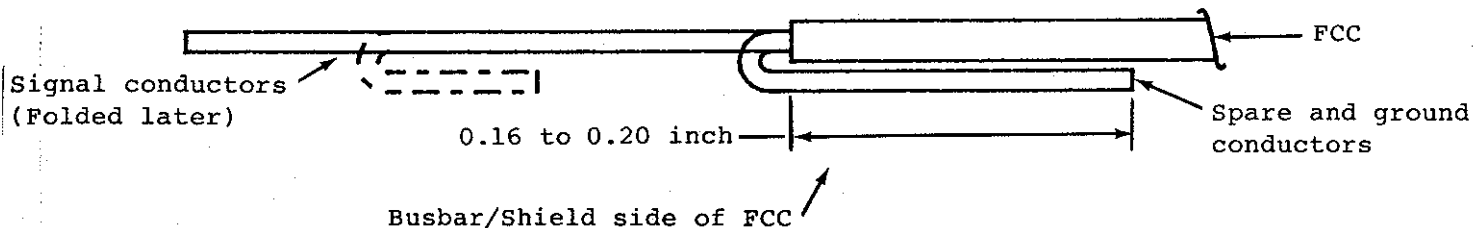

Figure 1A. Folding and Trimming of Spare and Ground Lead Conductors
- 7B. Trim the folded-back spare and ground conductors to the length indicated in Figure 1A.